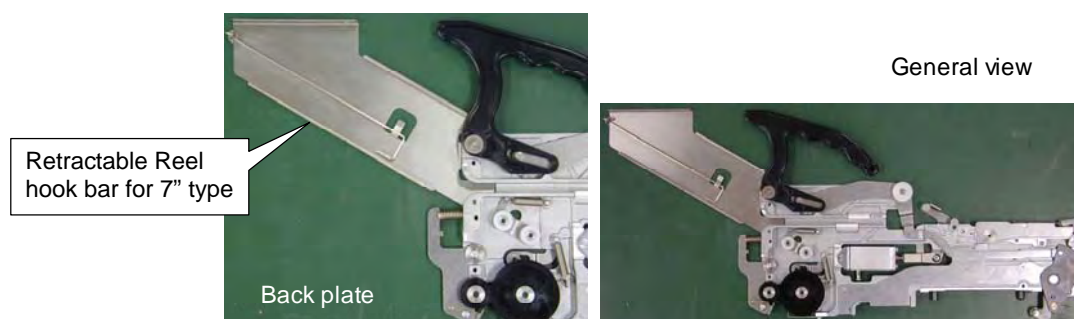

Fig 3
3. Feed the top cover tape through the tape guide in order of 1 to 5 described in Fig.3.